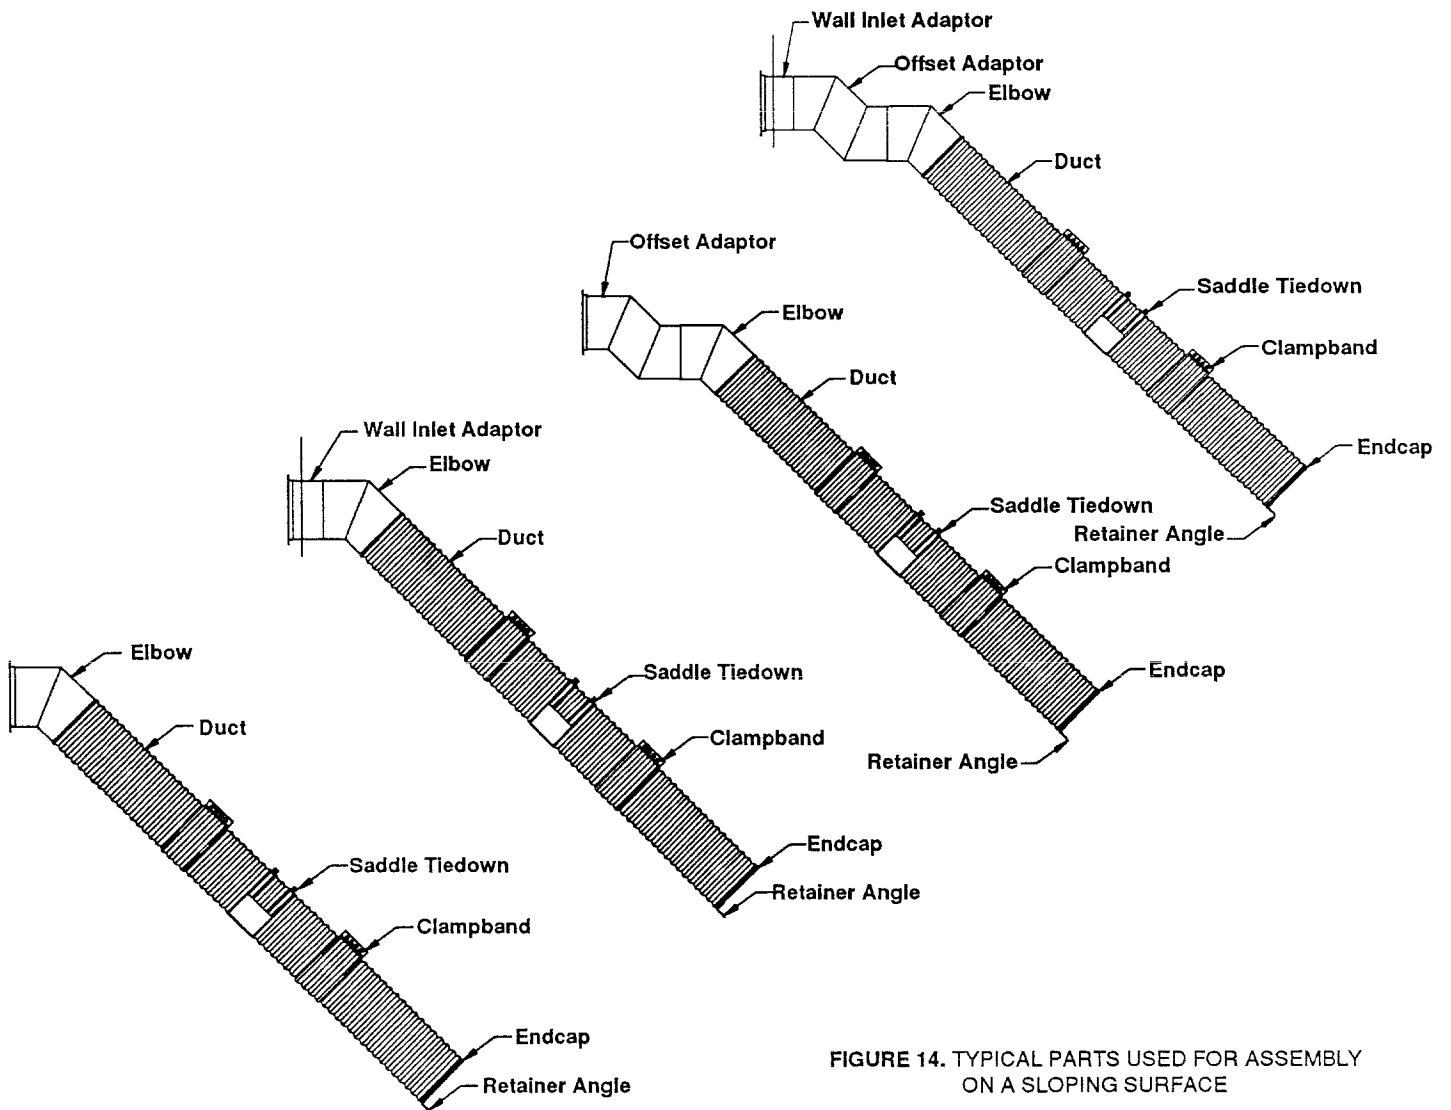

FIGURE 14. TYPICAL PARTS USED FOR ASSEMBLY ON A SLOPING SURFACE
**Caldwell Annular Corrugated Duct** can be used in above ground or below ground hopper bottom tanks with steel or concrete floors. Prior to starting the installation of the Annular Corrugated Duct on a sloping surface, refer to **Figure 14** on page 11, and make sure you have the necessary components present and in the correct quantities for your installation. Also refer to **Appendix A** on page 18 for information on the maximum grain depths allowed for a particular duct diameter and gauge of material. **WARNING: Do not install duct in grain depths greater than what is specified in Appendix A. Note, that recommendations on maximum grain depths are for funnel flow unloading only. The recommendation on grain depths do not include loading provisions for the dynamic loads from frozen or bridging grain dropping on the duct or for the dynamic loads encountered in plug flow unloading.** Consult Caldwell Manufacturing for assistance in evaluating the duct requirements for plug flow unloading applications.